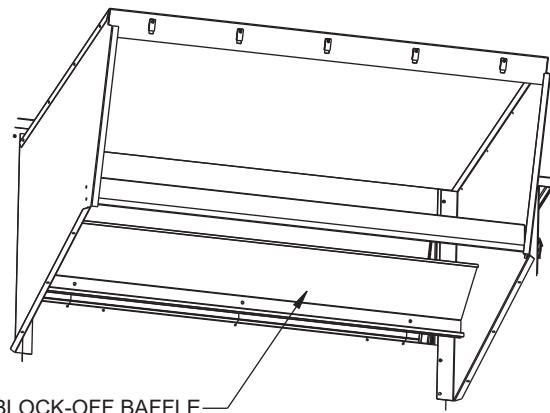

Fig. 26 — Mounting Block-Off Baffle to the Unit
9. Locate and mount block-off baffle using 3 screws. See Fig. 26 for mounting details.